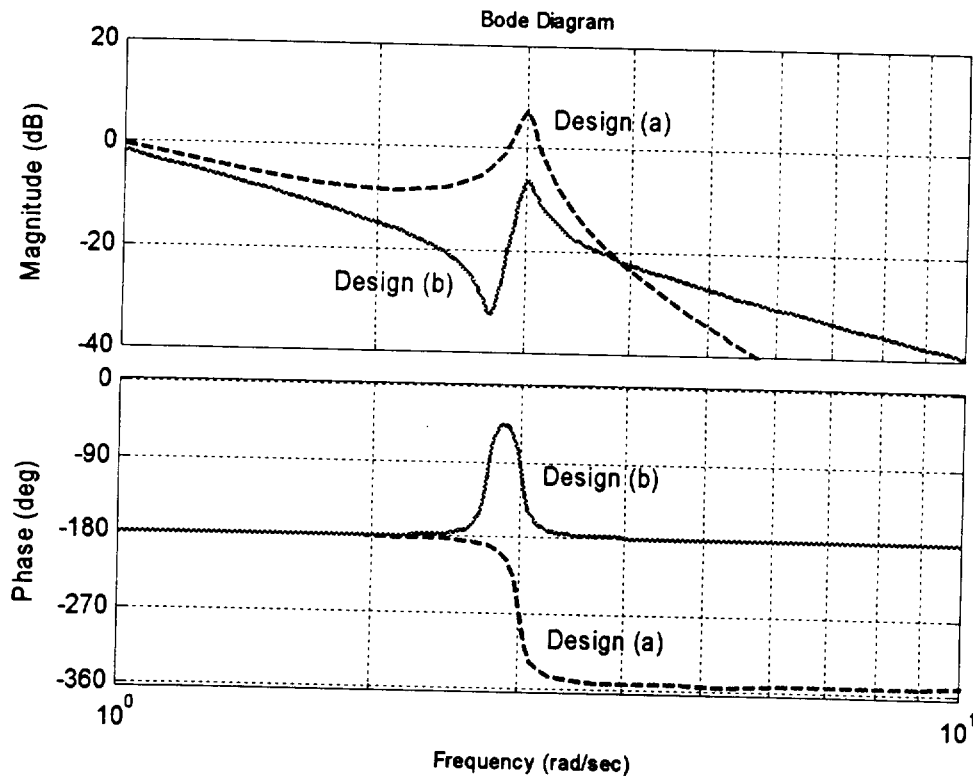

Figure 2 Comparison of two designs
2. Figure 1 shows the block diagram for the attitude control of a satellite with structural resonance. Figure 2 compares the Bode plots of G for two different designs: